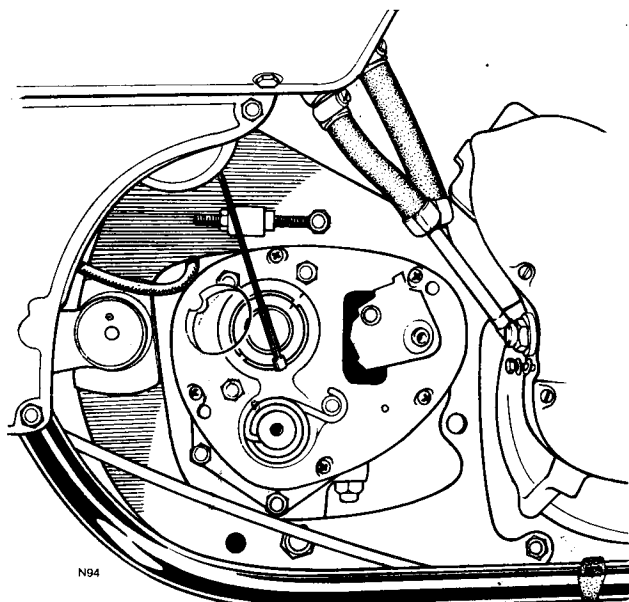

Fig. D6 Kickstart spring located. Note alignment of clutch body to permit straight pull on clutch cable and operating lever.
- 3 Assemble the kickstart return spring, aligning the outboard end of the spring with the mating hole in the spindle and sliding the spring down until the spring engages in the hole. Wind the spring as illustrated in Fig. D6 to tension and engage on the spring anchor pin.
- 10 Tighten the operating lever body ring until the body is fully engaged and finally tighten the lock ring to bring the body slot directly into line with the marks previously applied to the boss in the cover. *Fig. D6* illustrates the alignment procedure during tightening of the lock ring. If a new cover is being fitted and no alignment marks are present, hold the body in the position where the clutch cable can exert a straight pull, as the locking is tightened.